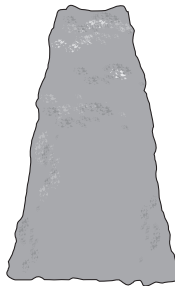

Fig. 9
**NOTE:** When shaping it is advisable to achieve a trapezoidal shape (Fig. 9). A trapezoidal cut corresponds to the natural growth of plants and results in optimal hedge growth, as it will expose more light to the lower end of the hedge.